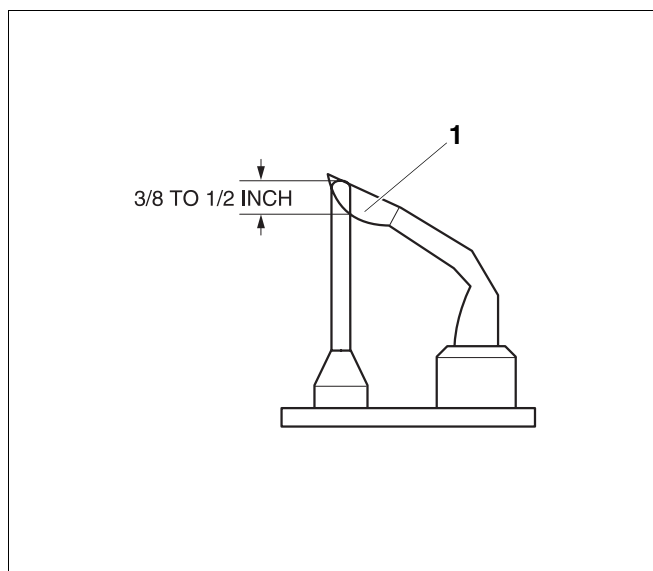

Fig. 15 Correct pilot flame setting
43. Observe pilot flame through the sight glass (→ Fig. 15) in the burner housing.